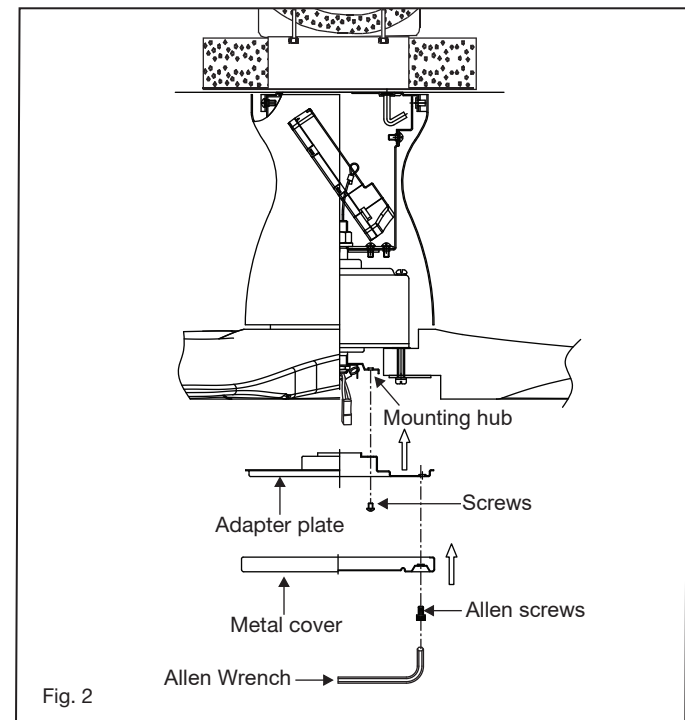

Fig. 2
- 4 Raise glass shade up against LED assembly and secure it to the fan by turning the glass shade clockwise until snug. DO NOT OVERTIGHTEN. (Fig. 2)
- 2 Remove one of the three screws on the mounting hub located on the fan motor. (Fig. 2)
- 7 Install metal cover to the adapter plate with six allen screws previously removed by using the hex wrench provided. (Fig. 2)